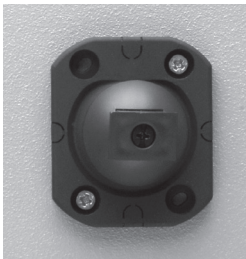

Figure 3.
5. Mount the bracket to the surface (Figure 3). The mounting materials for solid brick walls are included.